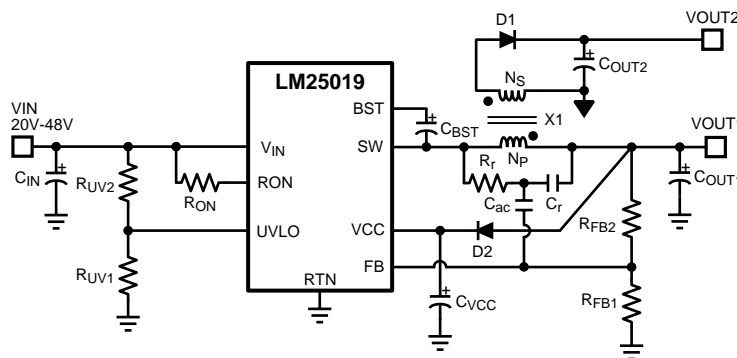

Figure 17. Typical Isolated Application Schematic
An isolated supply using LM25019 is shown in Figure 17 below. Inductor (L) in a typical buck circuit is replaced with a coupled inductor (X1). A diode (D1) is used to rectify the voltage on a secondary output. The nominal voltage at the secondary output ( $V_{OUT2}$ ) is given by: